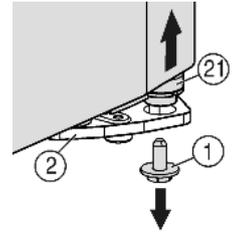
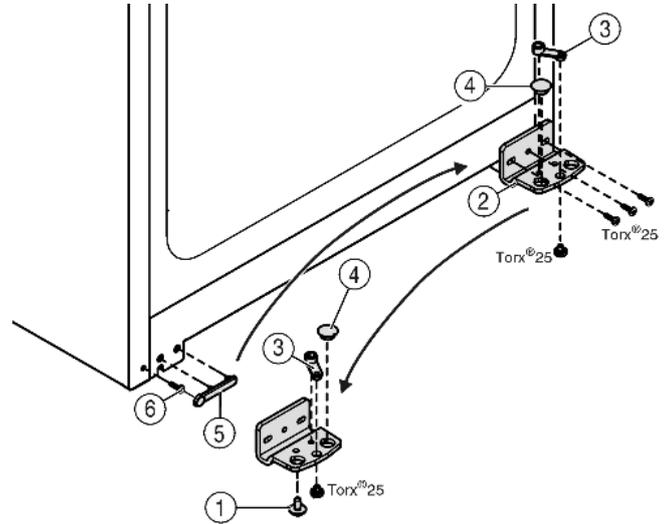

Fig. 6
Fig. 7
- ▶ Unscrew the securing screw on the bottom right Fig. 6 (1) turn hinge.
- ▶ The bearing pin Fig. 6 (21) should come out of the turn hinge Fig. 7 (2).
- ▶ If the bearing bolt Fig. 6 (21) doesn't undo press it out from underneath.
- ▶ Unscrew the turn hinge Fig. 7 (2).
- ▶ Unscrew the bearing element, Fig. 7 (3) transfer it to the opposite location hole of the turn hinge and screw it firmly into place.
- ▶ Take the stopper Fig. 7 (4) out of the turn hinge and transfer it to the receiving hole on the opposite side of the turn hinge.
- ▶ Carefully lift off the cover Fig. 7 (5) on the handle side.
- ▶ Undo the screw Fig. 7 (6) and transfer it to the opposite side.
- ▶ Put the cover Fig. 7 (5) back on.
- ▶ Screw the turn hinge Fig. 7 (2) firmly into place on the new hinge side (**with 4 Nm**), possibly using a power screwdriver.
- ▶ Insert the securing screw *Fig. 6 (1)* at the bottom into the bearing pin and tighten it (**with 4 Nm**).